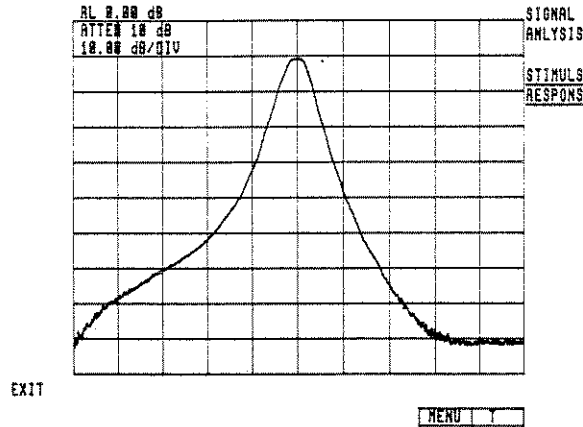

Figure 1-40.
◀STIMULUS RESPONDS▶ is active when underlined as in Figure 1-40. When active, **◀STIMULUS RESPONDS▶** activates the stimulus-response auto sweep time (which is typically valid for devices when the system's span is less than 20 times the bandwidth of the device).
Activating **◀ STIMULUS RESPONDS ▶** and either of the math function softkeys (**◀A - B --> A▶** or **◀A - C --> A▶**), activates *relative amplitude mode*. When the system enters relative amplitude mode, the reference level is set to 0 dB and the following functions are displayed in dB units: amplitude unit conversion (AMPU), display line (DL), measurement unit conversion (MEASU), marker amplitude (MK), reference level (RL), threshold (TH), and trace data input/output (TRA/TRB/TRC). For example, the reference level in Figure 1-40 is set to "RL 0.0 dB." (For more information, see "MEASURE" in the HP 71000 Language Reference.)